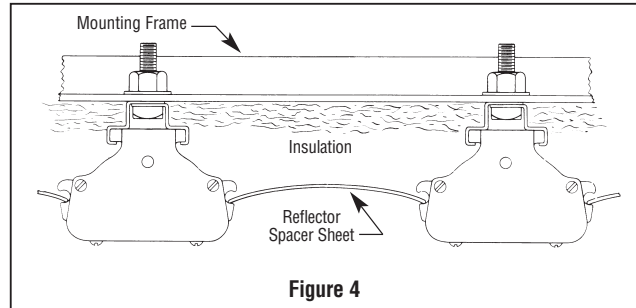

Figure 4
5. **Reflector Spacer Sheets** — Where heaters are not mounted side by side (see Figure 4), reflector spacer sheets can be used between heaters. These reflector spacer sheets and companion reflectors consisting of an extruded aluminum housing with reflector sheets and mounting clamps are available. Check factory.
6. **Insulation** — Where unusually high work temperatures are encountered, it may be desirable to insulate backs of heaters with high-temperature fibrous insulation. A suggested method of accomplishing this is indicated in Figure 4.